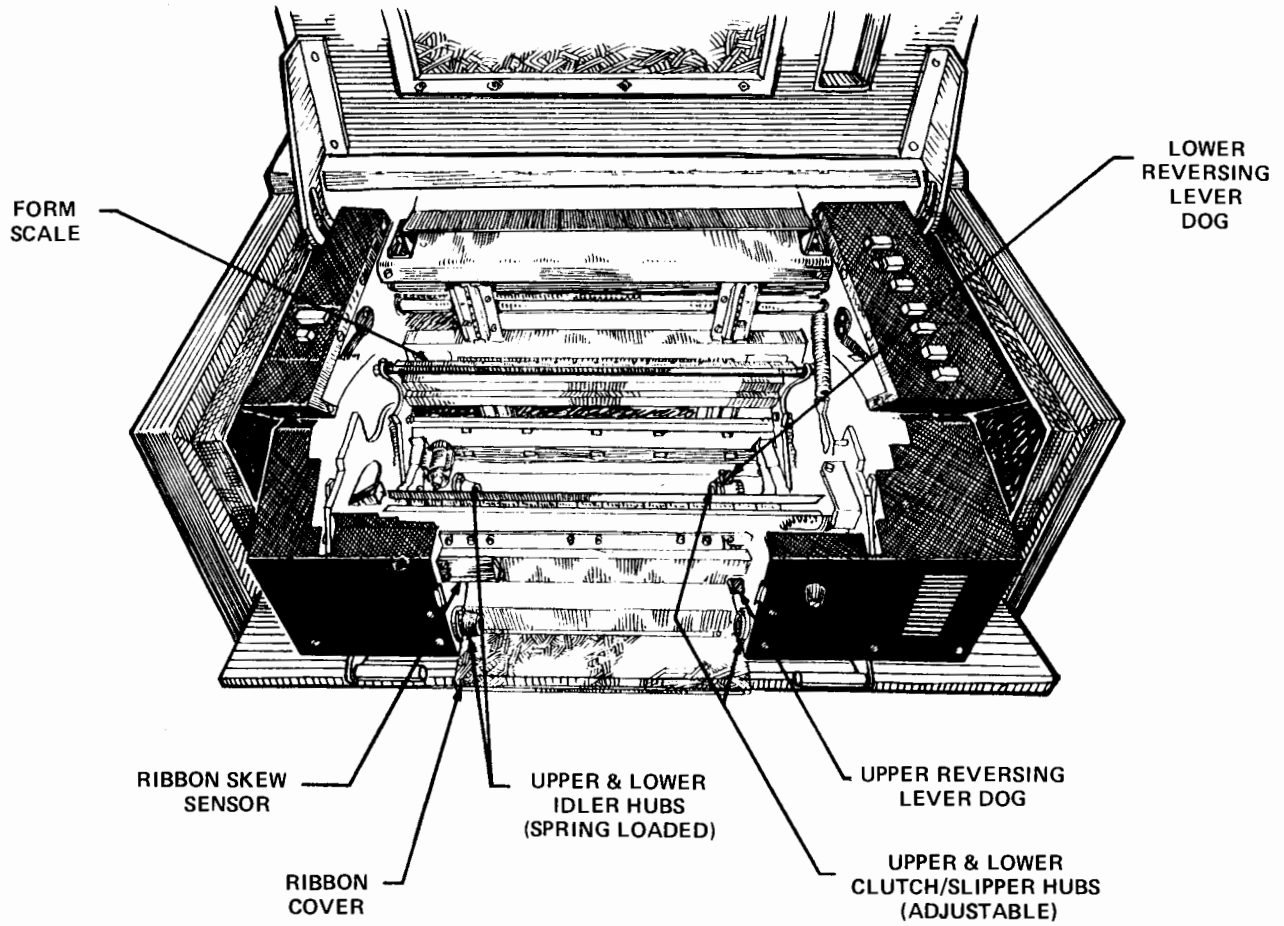

Figure 4-3. Ribbonfeed Mechanism
2. Swing the form scale away from the yoke towards the forms area and open the plastic ribbon cover to gain access to the ribbon and its mechanism, shown in Figure 4-3.